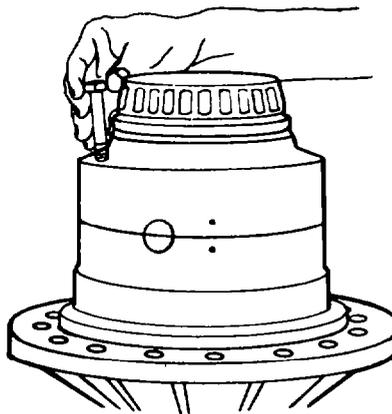

Fig. 359 — Assembling Differential Cases
- c. Fit the plain differential case (item 12) to the flanged case (item 20) so that the match marks are aligned. If necessary use a nylon hammer to tap the case into its correct position, then install the retaining bolts (item 11) and torque them to 157 - 176 Nm (116 - 130 lb.ft) (see fig. 359). Check the differential for free rotation by turning the side gear hub. A torque of up to 68 Nm (50 lb.ft) may be required to rotate the hub.